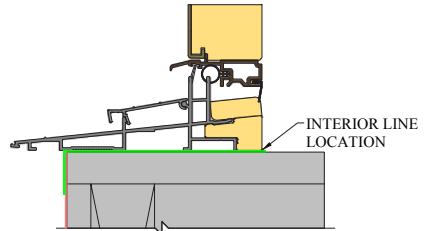

FIG. 16
- F) Test fit the unit in the rough opening and set the unit to the appropriate jamb depth. Once the correct jamb depth has been determined, draw a line along the inside of the sill on the subfloor. (Fig. 16)